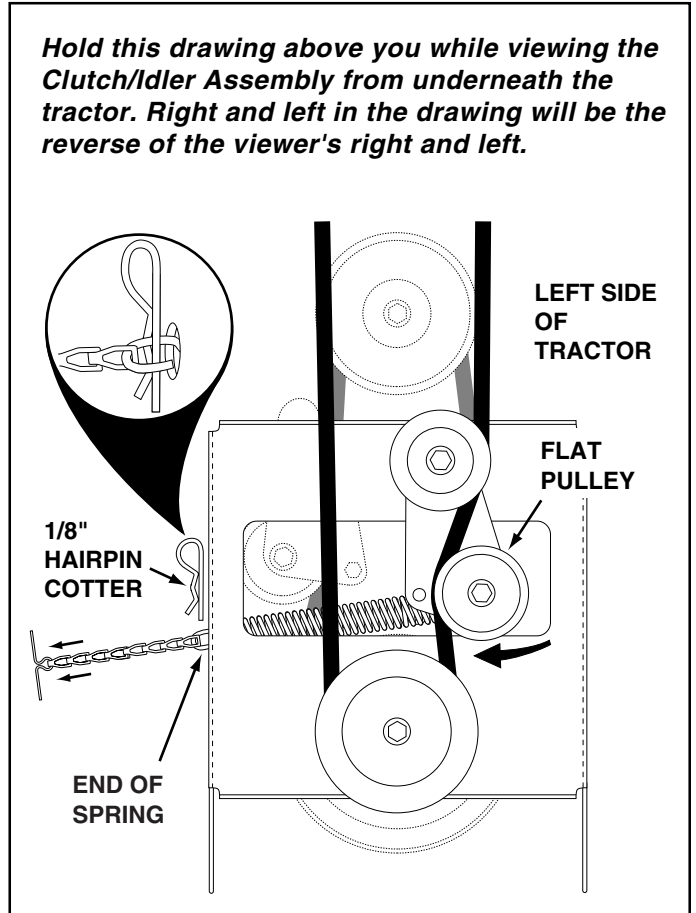

FIGURE 24 VIEWED FROM UNDERNEATH
- Pull the tensioning chain until the end of the spring is pulled through the hole in the side of the Clutch/Idler assembly. Install the 1/8" hairpin cotter through the end of the spring, securing it on the outside of the Clutch/Idler assembly. See figure 24.